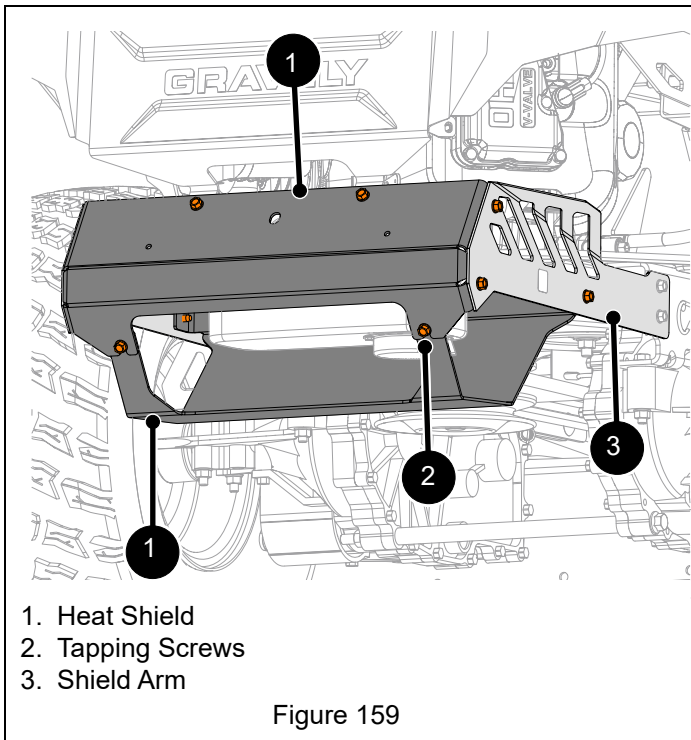

Figure 159
12. Reinstall the heat shield and secure with ten tapping screws. See Figure 159.